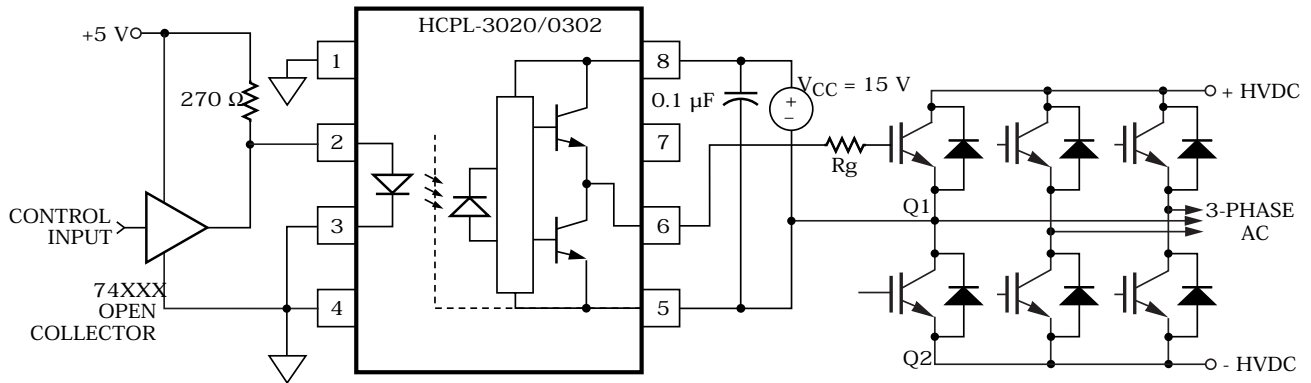
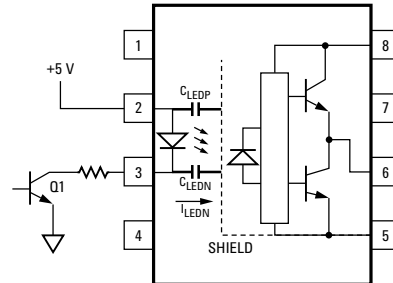

Figure 17. Recommended LED drive and application circuit for HCPL-3020 and HCPL-0302.
Figure 22. Not recommended open collector drive circuit.
To keep the IGBT firmly off, the HCPL-3020 and HCPL-0302 have a very low maximum  $V_{OL}$  specification of 1.0 V. Minimizing  $R_g$  and the lead inductance from the HCPL-3020 or HCPL-0302 to the IGBT gate and emitter (possibly by mounting the HCPL-3020 or HCPL-0302 on a small PC board directly above the IGBT) can eliminate the need for negative IGBT gate drive in many applications as shown in Figure 17. Care should be taken with such a PC board design to avoid routing the IGBT collector or emitter traces close to the HCPL-3020 or HCPL-0302 input as this can result in unwanted coupling of transient signals into the input of HCPL-3020 or HCPL-0302 and degrade performance. (If the IGBT drain must be routed near the HCPL-3020 or HCPL-0302 input, then the LED should be reverse biased when in the off state, to prevent the transient signals coupled from the IGBT drain from turning on the HCPL-3020 or HCPL-0302.
**Step 1:** Calculate  $R_g$  minimum from the  $I_{OL}$  peak specification. The IGBT and  $R_g$  in Figure 17 can be analyzed as a simple RC circuit with a voltage supplied by the HCPL-3020.
where  $K_{ICC} \cdot Q_g \cdot f$  is the increase in  $I_{CC}$  due to switching and  $K_{ICC}$  is a constant of 0.001 mA/(nC\*kHz). For the circuit in Figure 17 with  $I_F$  (worst case) = 10 mA,  $R_g = 57.5 \Omega$ , Max Duty Cycle = 80%,  $Q_g = 100$  nC,  $f = 20$  kHz and  $T_{AMAX} = 85^\circ\text{C}$ :
perturbations in the LED current during common mode transients and becomes the major source of CMR failures for a shielded optocoupler. The main design objective of a high CMR LED drive circuit becomes keeping the LED in the proper state (on or off) during common mode transients. For example, the recommended application circuit (Figure 17), can achieve 10 kV/μs CMR while minimizing the component complexity.
The open collector drive circuit, shown in Figure 22, cannot keep the LED off during a  $+dV_{CM}/dt$  transient, since all the current flowing through  $C_{LEDN}$  must be supplied by the LED, and it is not recommended for applications requiring ultra high CMR1 performance. The alternative drive circuit, which like the recommended application circuit (Figure 17), does achieve ultra high CMR performance by shunting the LED in the off state.